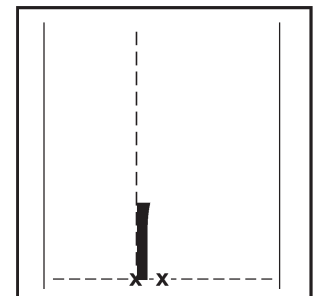

Figure 67
- Lay out the curve arrow base (liner still on) with the LEFT edge against the chalk line and the base along the base line (see Figure 67).